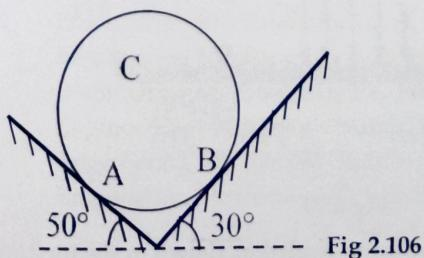

Fig 2.106
- 5) A cylinder of weight 500N is kept on two inclined planes as shown in the fig 2.106. Determine the reactions at the contact points A and B. (Ans: 253.85N, 388.93N)